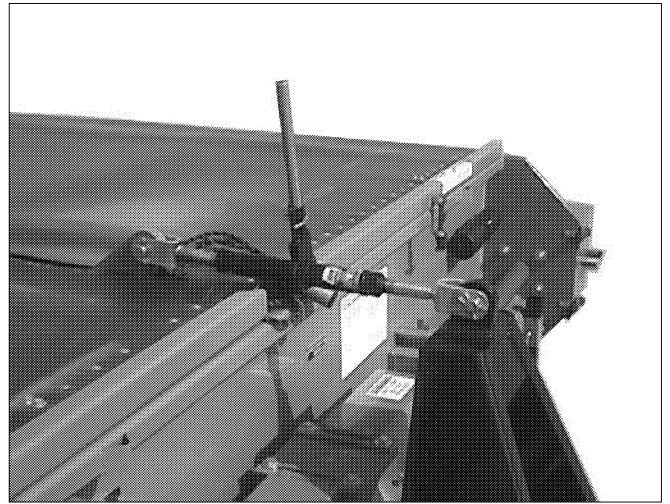

Figure 4 Hitch Ratchet
1. Use ratchet or hydraulic cylinder on the hitch to lower the hitch and transfer the weight to the drawbar. See Figure 4.
1. Use the ratchet or hydraulic cylinder on the hitch (Figure 4) to level the frame in the direction of travel.